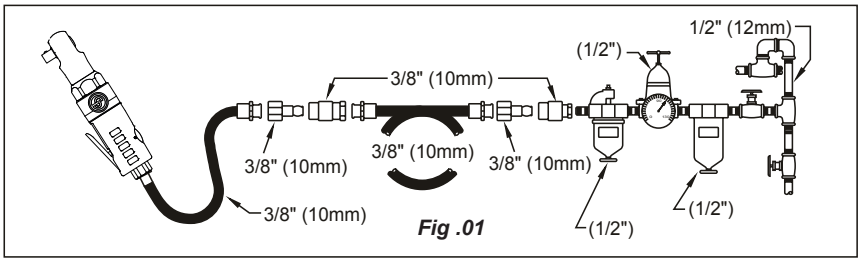

Fig. 01
- Connect device as shown in Fig. 01 to a clean and dry air supply.
- To start the machine, pull the lever (A). Machine speed is increase by increasing pressure on the trigger. Release the lever to stop.